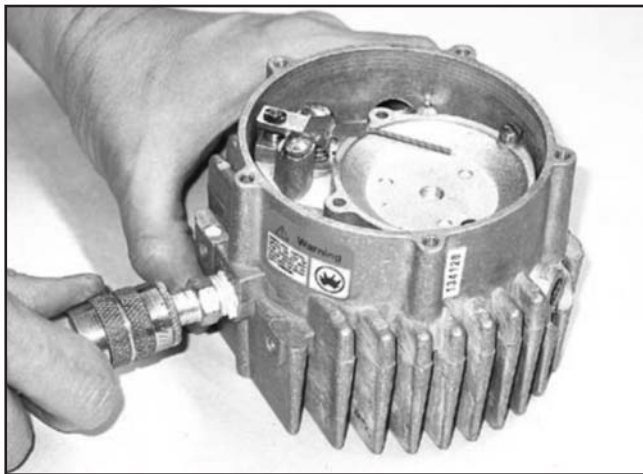

**Figure 3-24. Primary Pressure Test Port Opening**
12. Attach primary pressure gauge at the primary pressure test port opening. See Figure 3-24.